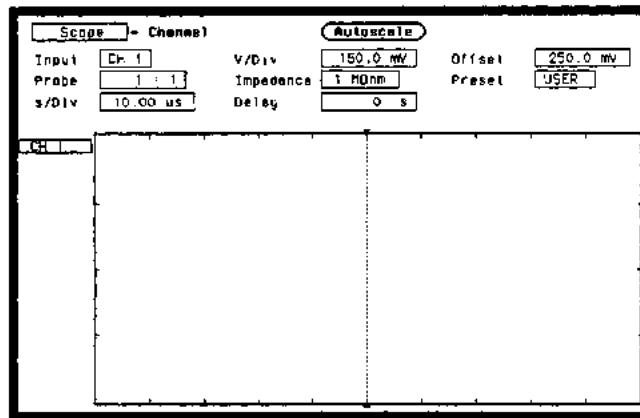

Figure 3-46. Channel Menu Configuration
6. Using the knob and SELECT key, set **Input** to CH 1, **Probe** to 1:1, and **Impedance** to 1 MOhm as in figure 3-46.
4. Using the knob and **SELECT** key, set **Input** to **CH 1**, **Probe** to **1:1**, and **Impedance** to **1 MOhm** as in the previous test figure 3-46.